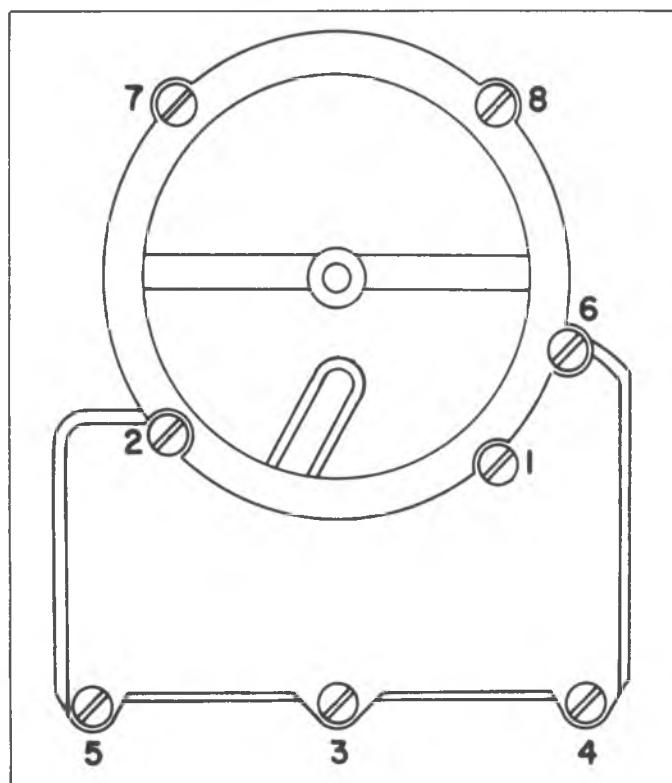

Fig. G11--Air Horn Tightening Sequence
- Install and tighten air horn screws evenly and securely in sequence shown in Figure G11. The number one screw is the long screw.